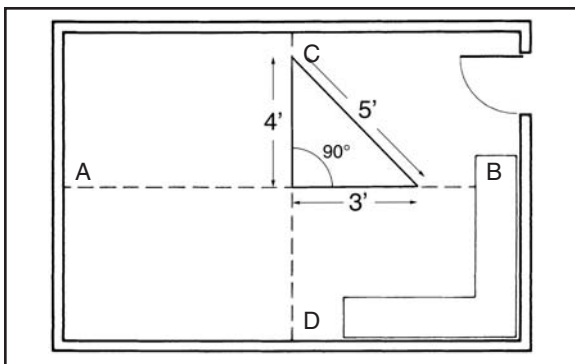

Fig. 1. Square layout
- Find the center of the line and snap a second chalk line at a right angle using the 3', 4', 5' method to form a right angle (Figure 1).